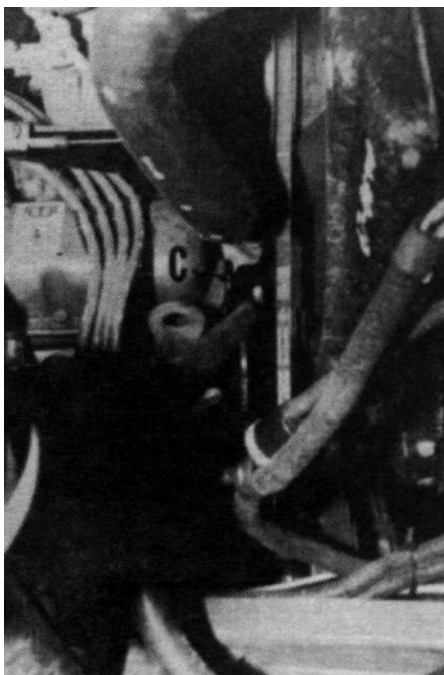

Figure 15
1. Remove bypass hose as shown in Figure 15 and 16. Route hose from the top of the H-valve to the outlet side of the water pump. Cut hose and secure to fitting using a hose clamp. Attach remaining hose to inlet side of water pump using a hose clamp.